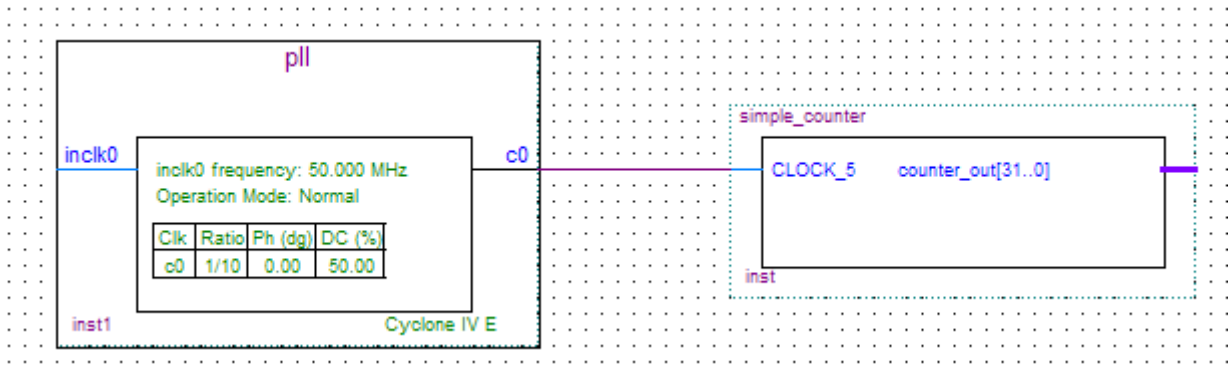

Figure 6-27 Draw a Bus Line connect pll c0 port to simple_counter CLOCK_5 port
- Click and drag a bus line from the c0 output to the simple_counter clock input. This action ties the pll output to the simple_counter input (see Figure 6-27).